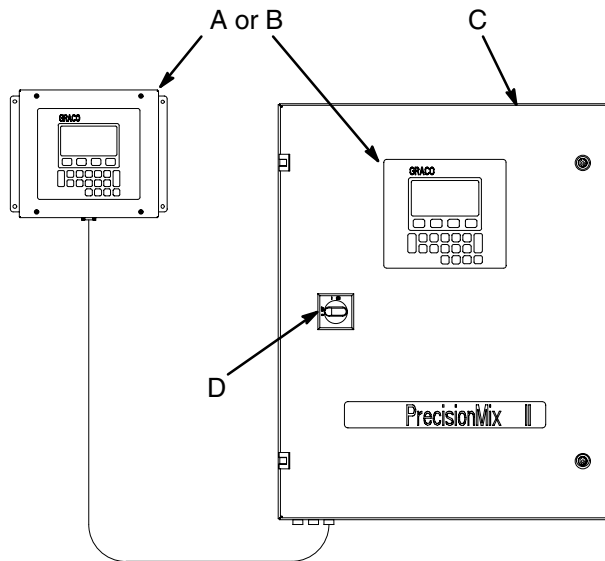

Fig. 13.5
3. Turn the PrecisionMix II power switch (D) to off. See Fig. 13.5.
4. Disconnect the User Interface (A or B) cable from the PrecisionMix II controller (C).